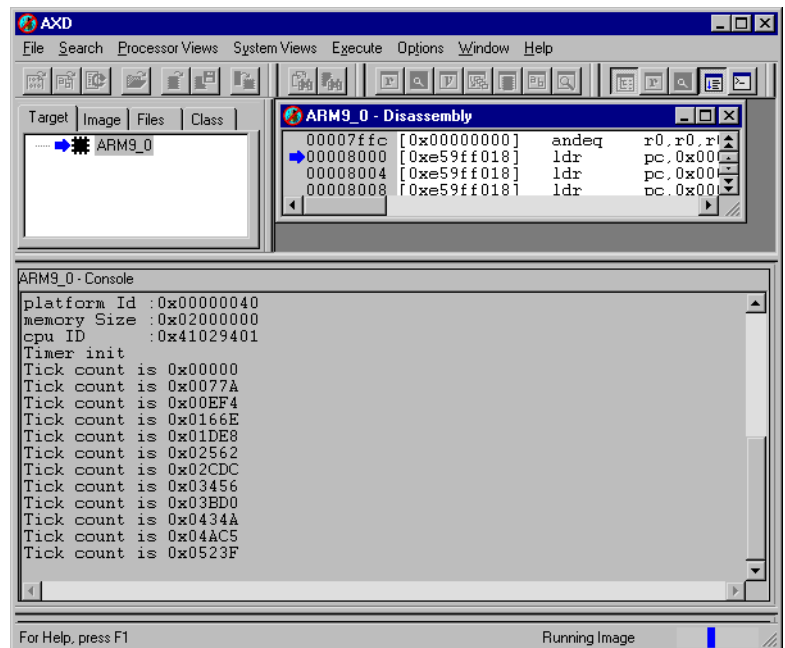

Figure 4-1 Timer application output
3. Use AXD to start the application. The timer values are displayed in the console as shown in Figure 4-1.